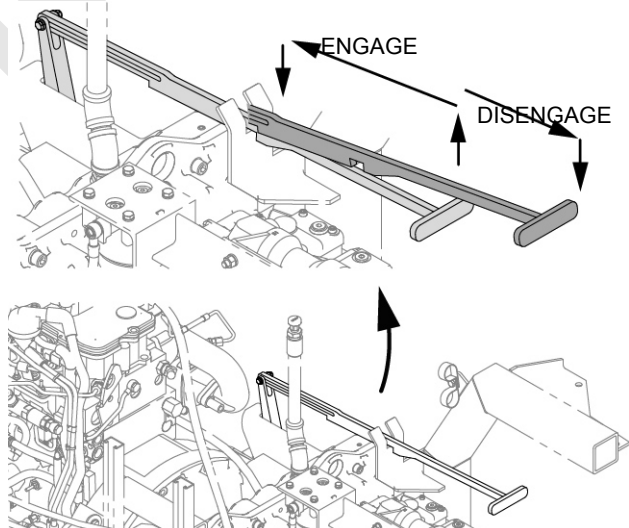

FIGURE 2-19
4. At engine, check that engine clutch is engaged (Figure 2-19).